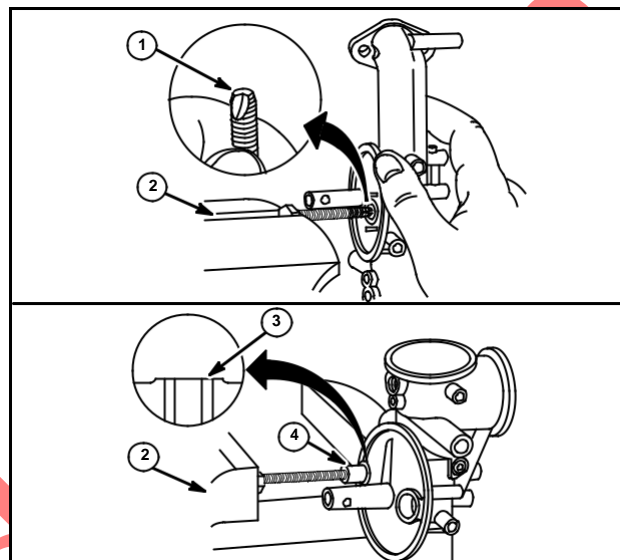
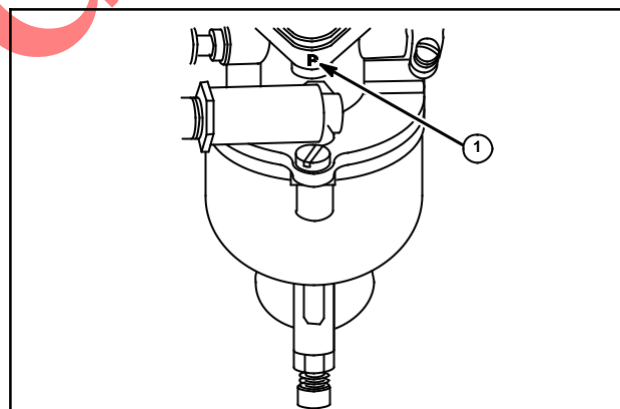

Fig. 139
Fig. 140
1. Use a Part #93029 self-threading screw (1) or remove one self-threading screw from Tool #19069, Flywheel Puller, and clamp head of screw in a vise (2).
2. Turn carburetor body to thread screw or screw extractor into seat, Fig. 139.
3. Continue turning carburetor body to draw seat (4) out.
NOTE: If engine is equipped with a fuel pump, (as indicated by letter "P" flange marking) (1), install repair kit Part #394683, Fig. 140.
5. Press new seat flush with body using screw/screw extractor and old seat as driver, Fig. 139.
6. Use care to ensure seat is pressed flush (3), and not pressed below body surface or improper float to float valve contact will occur.